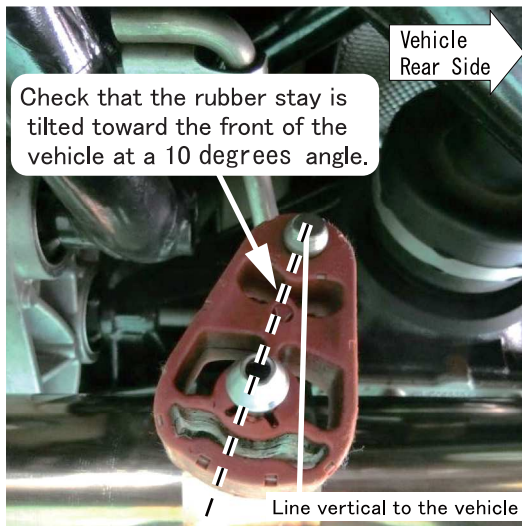

Fig.17 Example of the tilt of the rubber stay on the #2 mid pipe (photo shows the left side #2 mid pipe)
- (2) Make sure that all four rubber stays on the right and left sides of the #2 midpipe and on the main muffler hangers are tilted forward 10 degrees toward the front of the vehicle, as shown in Fig 17 and 18.